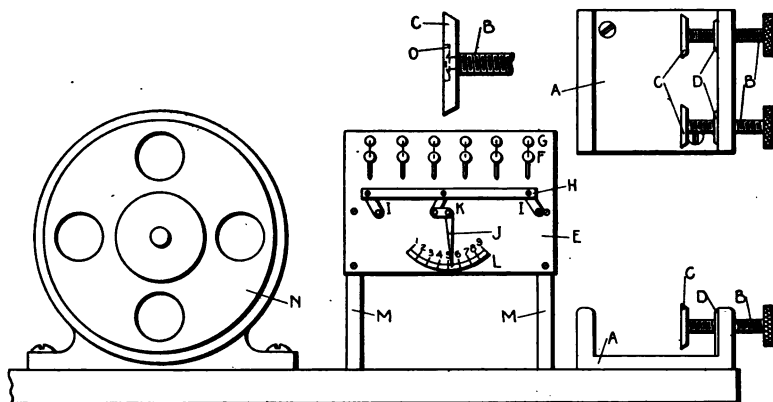

Fig. 474. Magneto Test Stand
**Magneto Test Stand.** For testing magnetos, a substantial device that may be quickly set up is necessary. Fig. 474 shows a simple design for such an apparatus. The vise *A* holds the magneto to be tested, clamping it tightly by the two screws *B*. The magneto has a pulley provided with the standard taper, which is 5 degrees, or if a coupling is on the magneto that may be used for a pulley, a  $\frac{3}{4}$ -inch leather belt connecting this coupling with the motor pulley. The high-tension wires are connected to the adjustable spark gap, and the magneto is then tested. The motor *N* should be a variable-speed, 110-volt, and, if possible, direct-current machine. A starting box is used, taking the return spring from the handle and using it for a regulator. This will not